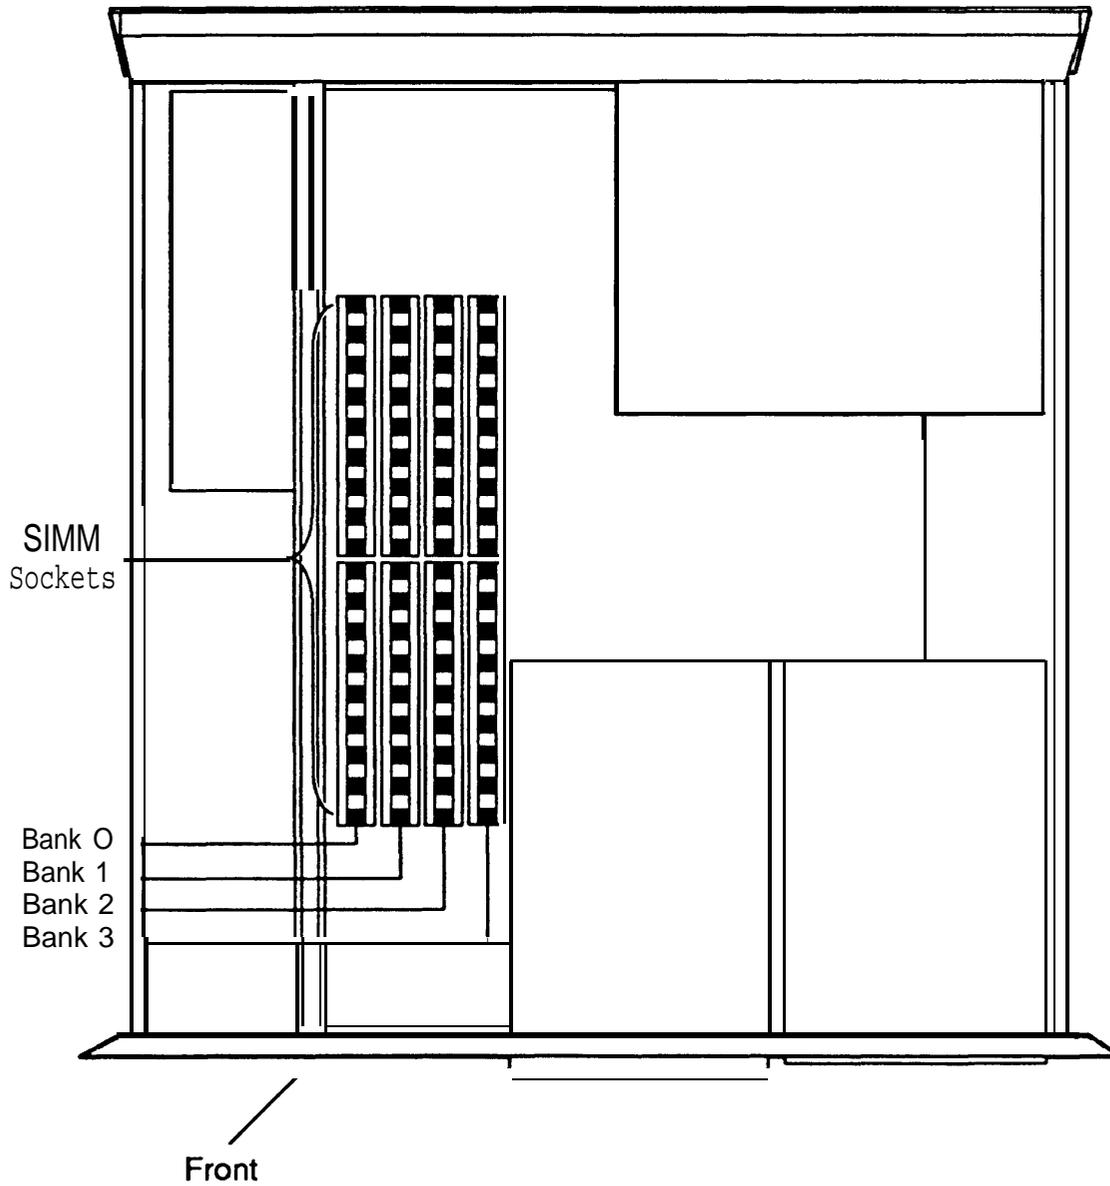

Figure 2-10. Location of Memory (SIMM) Sockets on the Master Controller II+
1. Locate the empty Single In-line Memory Module (SIMM) sockets as shown in Figure 2-10